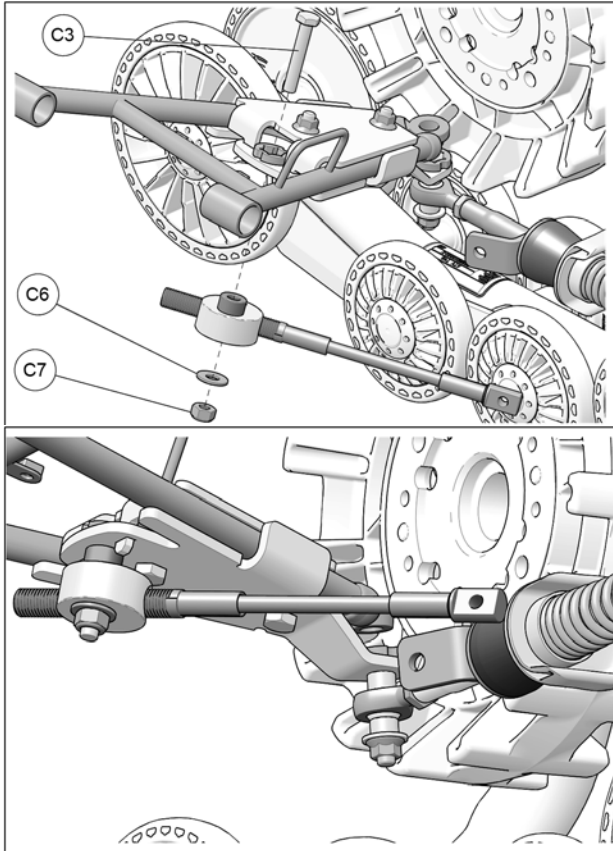

Fig. 24
12. Position aluminum disk of steering limiter assembly under back end of front anchor bracket. Use bolt (C3), washer (C6) and nut (C7) to secure the assembly to anchor bracket. Tighten nut to 50 N•m [37 lb•ft]. Refer to Fig. 24